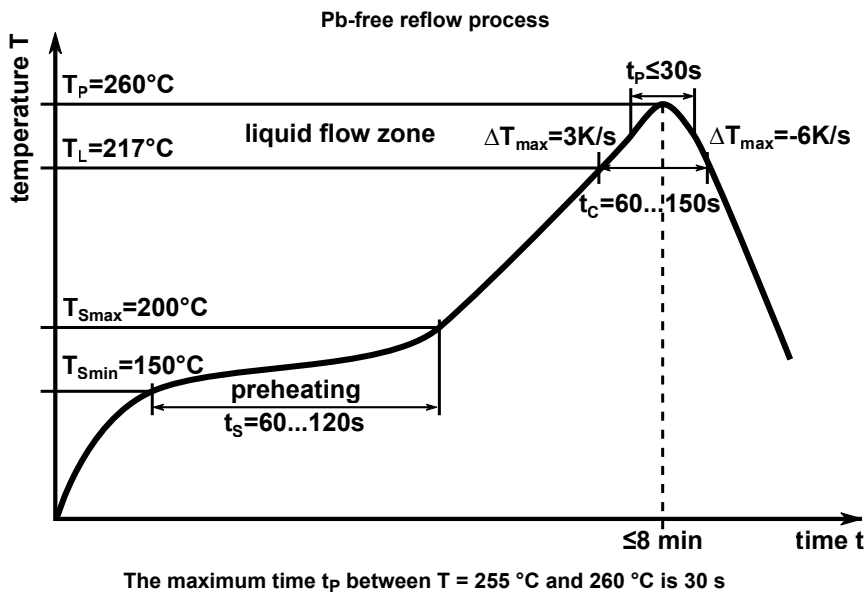

Fig. 1 Recommended reflow profile using a standard reflow soldering oven
For soldering, a standard convection reflow soldering oven may be used (no vapour phase and no wave soldering). For this purpose, a lead-free, air and nitrogen reflowable no-clean type 3 solder paste, which meets the requirements of the RoHS Directives 2011/65/EU and (EU) 2015/863, as well as the standards by J STD 004 is recommended. Figure 1 below shows a typical soldering profile.